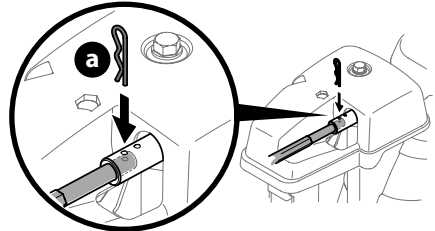

Figure 34
6. Push chute control rod toward the control panel until hole in rod lines up with middle hole in chute control coupler and insert hairpin clip (a) removed in Step 1 (Figure 34).